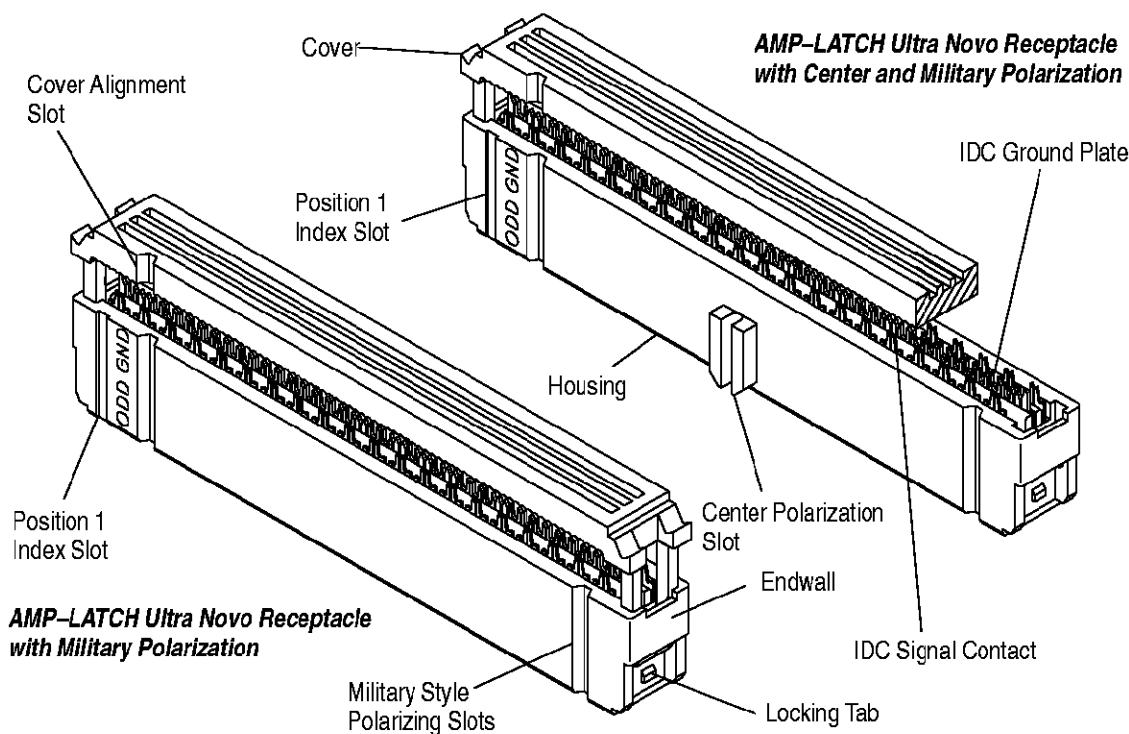

Figure 1
When corresponding with Tyco personnel, use the terminology provided on this specification to help facilitate your inquiry for information. Basic terms and features of receptacles are provided in Figure 1.
- Changed locking tab configuration in Figures 1, 4, 5, 6, 7, 8, and 10